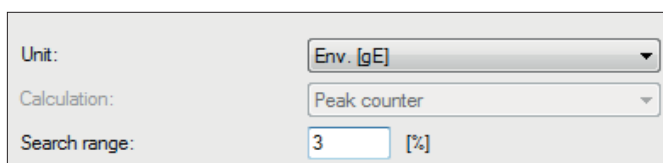

Fig. 7d. The search range is set in % and is calculated based on the frequency range for the vibration spectra.
- **Calculation of the search range:** 3% out of 1 kHz is 30 Hz = 1 800 cpm (→ **fig. 7d**)